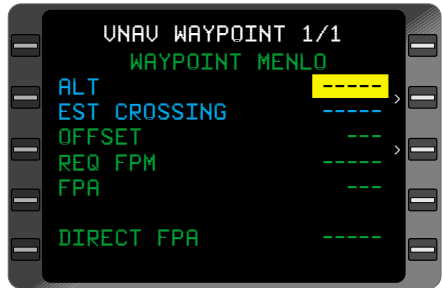

Figure 3-122
3. **VNAV Key - DEPRESS** to display **VNAV WAYPOINT** Page for selected waypoint. (Figure 3-122)